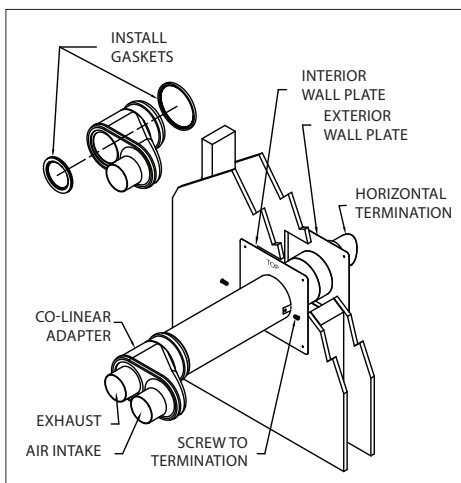

Figure 12
Horizontal Concentric (Fig.12)
8. Install gaskets into Co-Linear Adapter (if applicable). (**Fig.12**)